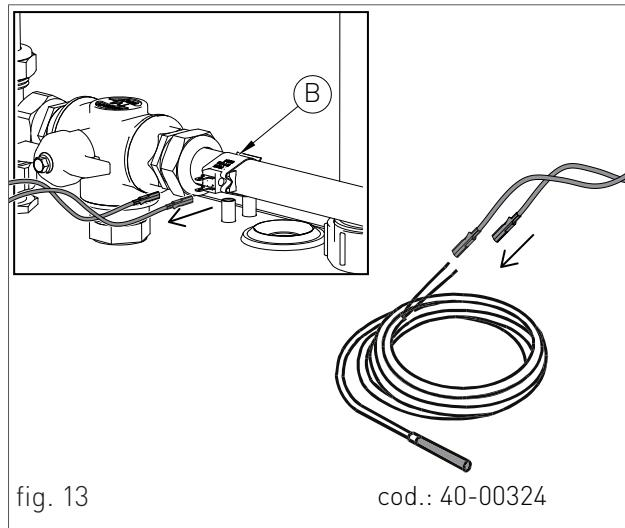

fig. 13
- › Disconnect the two faston of the recirculation probe (see B-fig. 13), and connect them onto the optional probe meant for the storage (part number: 40-00324, see fig. 13). Insert this latter probe into the sensor-holder of the storage tank.